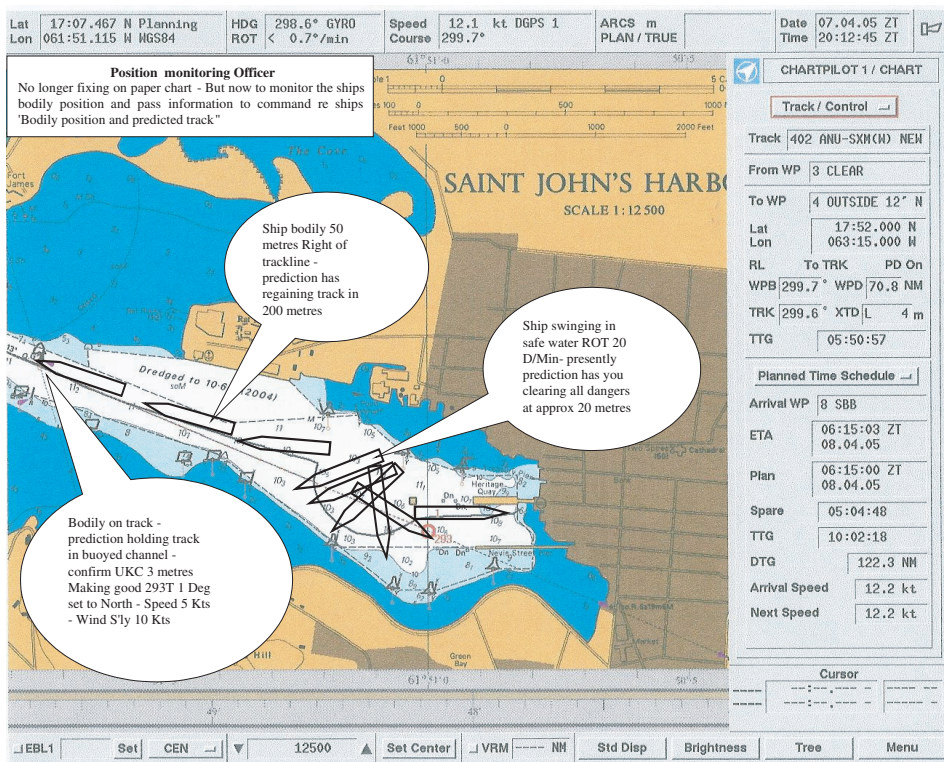

Figure 7. Position Monitoring Officer.
- f) *Position monitoring Officer ECDIS Mode.* As the position of the ship is no longer being plotted on a paper chart the call out from the Position monitoring officer must change. In Figure 7 is the type of information I wish to hear – confirming that the ship is safe and what she is doing. Chose your moment to speak: